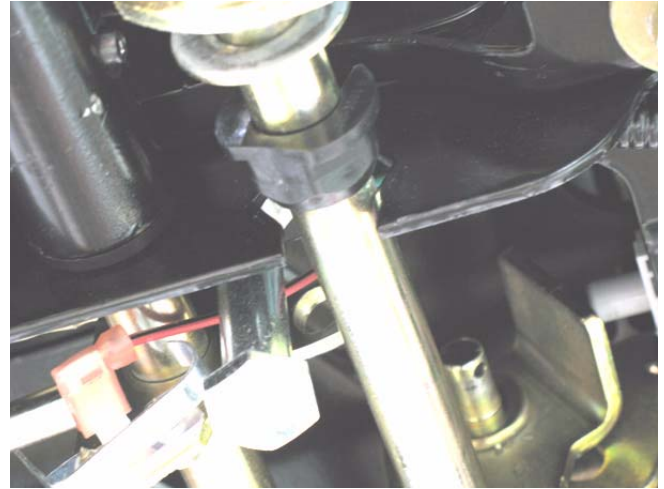

Figure 3.23
- Slide the split bushings out of their pockets in the sub-frame, then pull them off of the brake cross shaft assembly. See Figure 3.23.